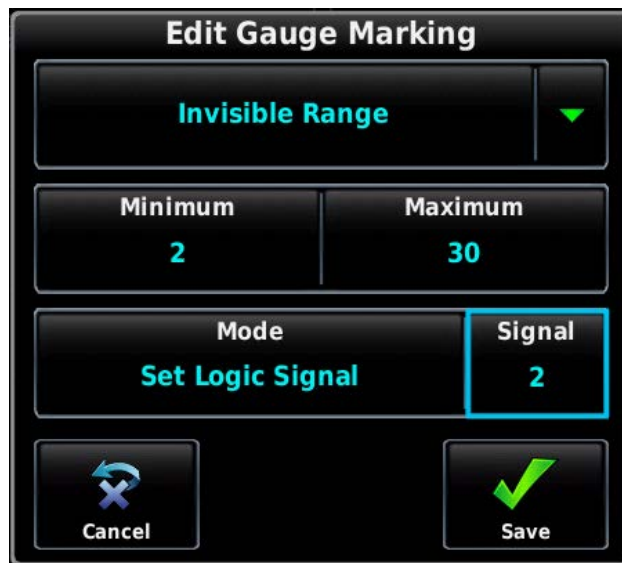

Figure 30-66 Edit Gauge Marking - Logic Signal Set By Invisible Range
The ability to support dynamic gauge range markings and alerts is supported through the use of engine/airframe logic signals, which are used to allow one engine/airframe parameter to affect the behavior of another, or even to affect itself. A logic signal is a simple binary value, which can be in one of two states: "set" (1) or "clear" (0), based on the real-time sensor input value of the associated gauge. Up to 10 logic signals are supported, numbered 1 through 10. When editing a gauge range marking or discrete input, the Mode setting is used to configure how it interacts with logic signals (see Figure 30-66).